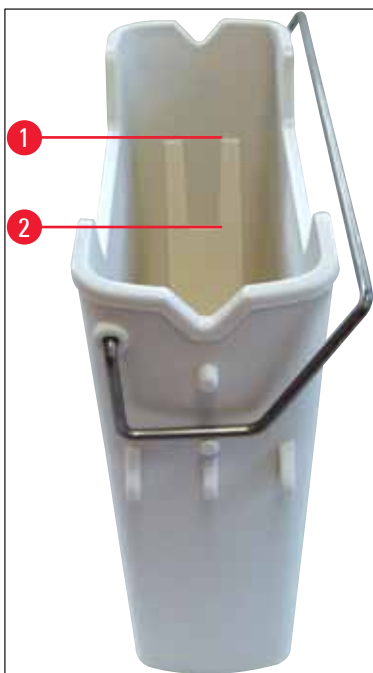

Fig. 17
- » Check whether the reagent vessel handle is correctly attached to the reagent vessel. If this is not the case, fasten the handle according to (→ Fig. 17).